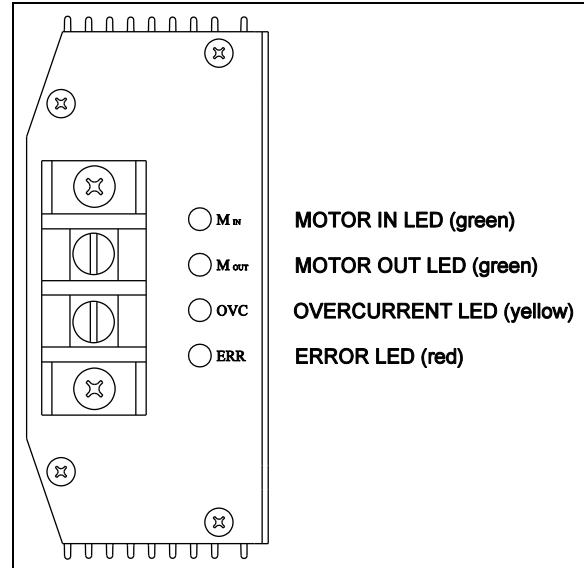

FIGURE 39 : MOTOR CONTROLLER LED PANEL
7. Check the front slide-out motor controller error LED (figure 39). The LED must blink normally once every 2 seconds. If it flash once every second or faster, the ECU of the motor controller didn't change to ECU2. Repeat the procedure from step 5.
7. Check the rear slide-out motor controller error LED (figure 39). The LED must blink normally once every 2 seconds. If it flashes once every second or faster, the ECU of the